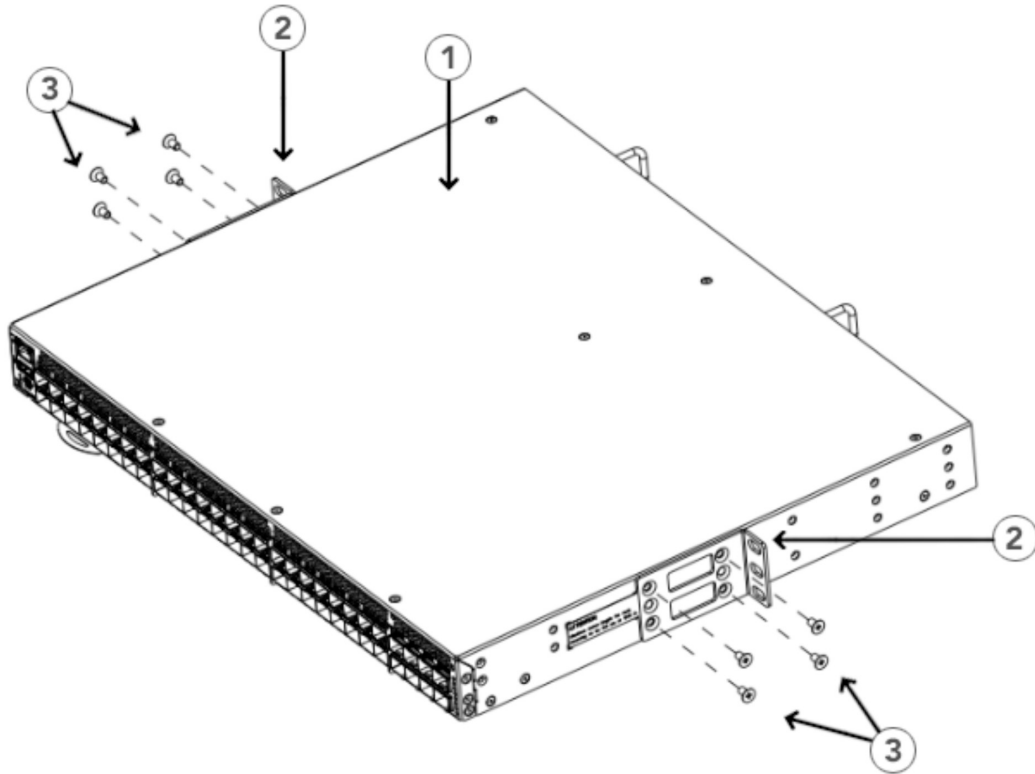

Figure 20. Attaching the Front Brackets
1. Position the right front bracket with the flat side against the right side of the device, as shown in Figure 20.